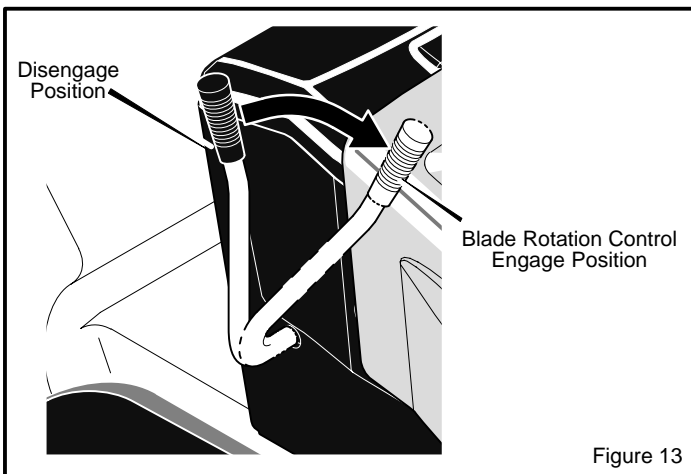

Figure 13
2. Move the **blade rotation control** to the **DISENGAGE** position (Figure 13).